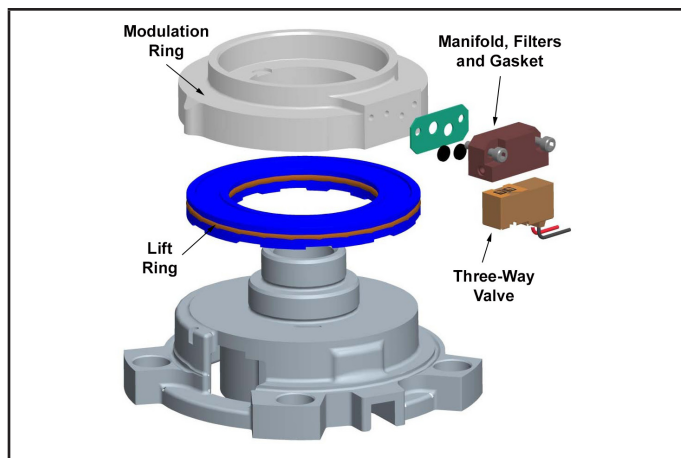

FIGURE 2. Two-Stage Scroll Compressor
- *Without Torque Wrench:* Finger tighten and use an appropriately sized wrench to turn an additional 1/6 turn clockwise as illustrated in figure 2.